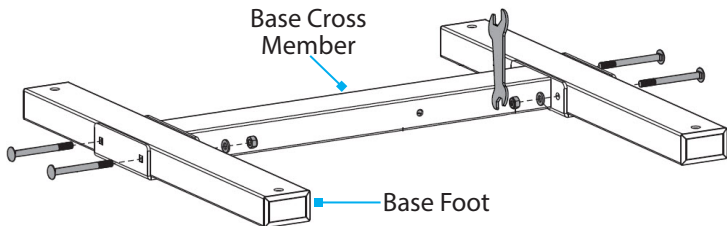

Figure 1
1. Flip the **Base Cross Member** and both **Base Feet** upside down and place onto a clean and flat surface. (Figure 1)